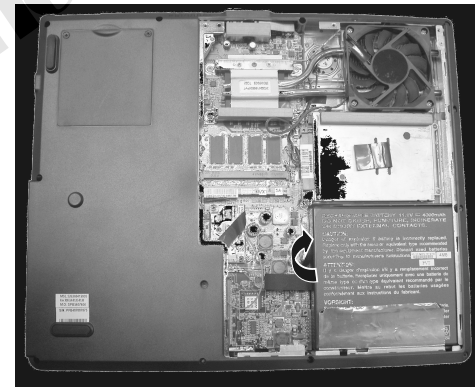

Figure 2-2 Remove the battery pack
3. Put up the battery pack, then free the battery pack. (Figure 2-2)